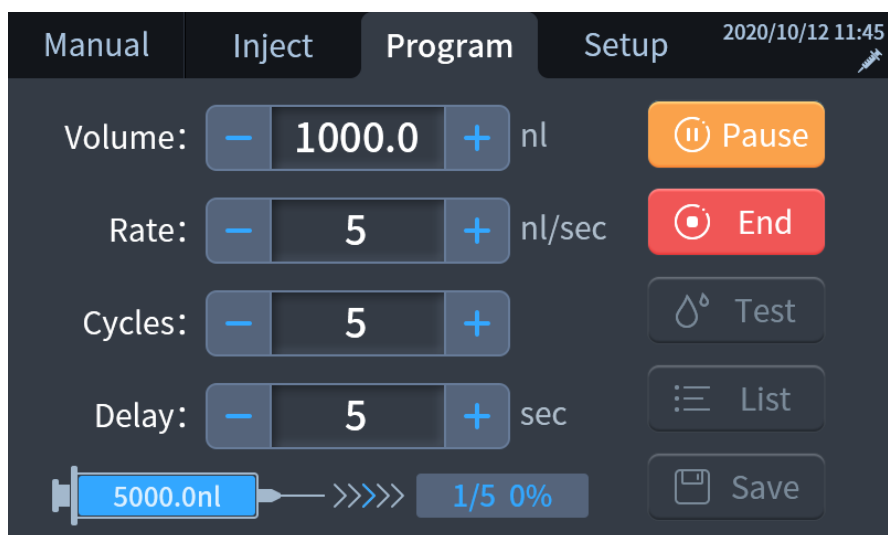

Figure 6-11
- 1) Click  to run the program to perform the injection, as shown in Figure 6-11, the injection progress will be displayed in real time.